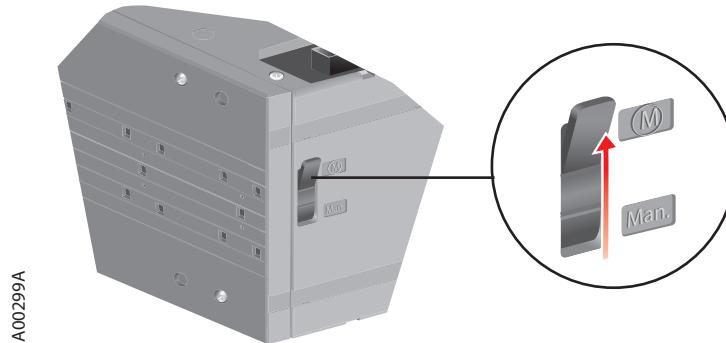

*Fig. 6-1 Releasing the handle*
1. Release the handle from the switch panel by pressing down the locking latch under the switch panel and pulling the handle off, see Figure 6-1.